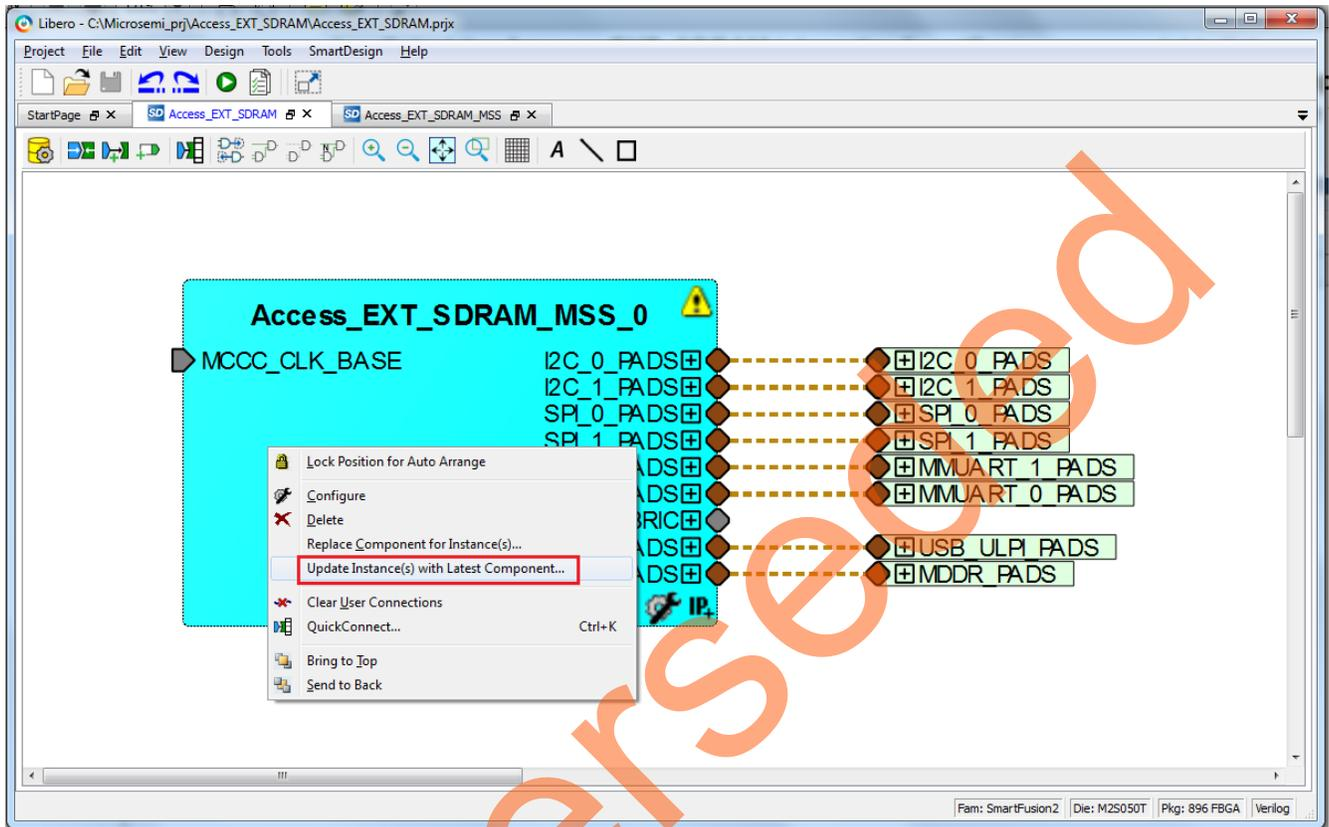

Figure 14. Updating the MSS
1. Select the **Access_EXT_SDRAM** tab on the SmartDesign canvas, right-click **Access_EXT_SDRAM_MSS_0**, and select **Update Instance(s) with Latest Component**, as shown in Figure 14.